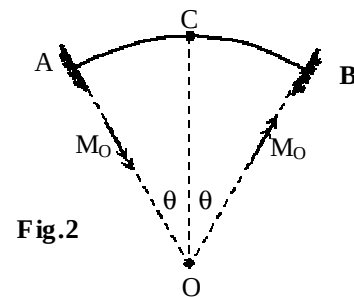

Fig.2
- (b) Analyze the circular beam in plan intercepting the central angle 2θ (or semi central angle: θ), fixed at ends and subjected to point load: W at mid span as shown in Fig.2. **07**